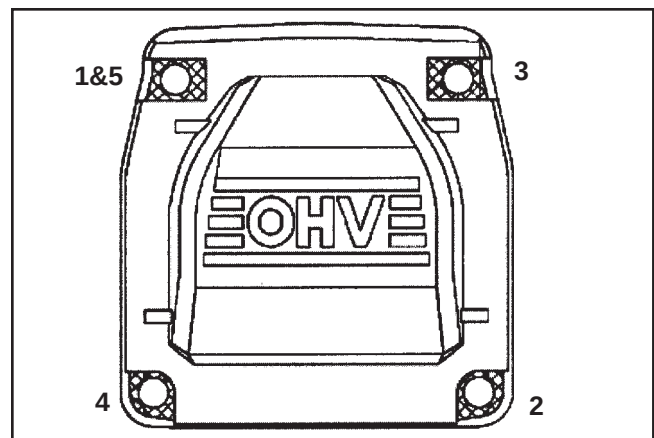

Figure 10-53. Valve Cover Fastener Torque Sequence.
4. Torque the valve cover fasteners to **6.2 N·m (55 in. lb.)**, using the sequence shown in Figure 10-53.